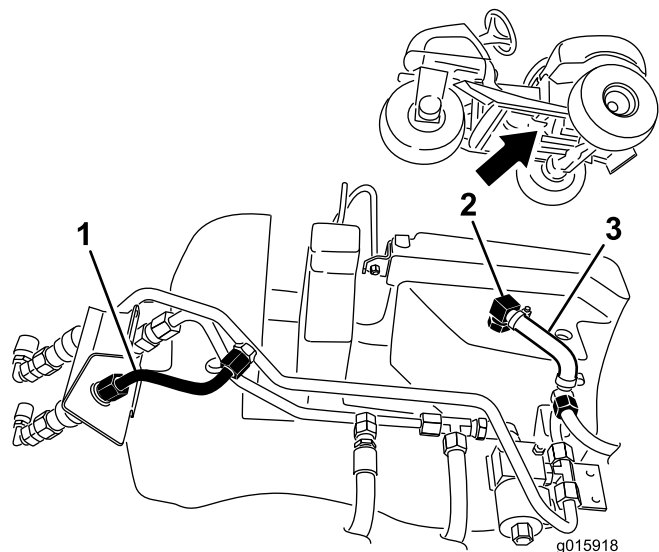

Figure 8
- Disconnect the short hydraulic line from the coupler fitting and the hydraulic line port (Figure 8).
- Remove the small molded hose by disconnecting it from the small elbow fitting in the hydraulic tank and the small hydraulic tube (Figure 8). Retain the clamps but discard the hose.
- Remove the small elbow fitting from the hydraulic tank (Figure 8).